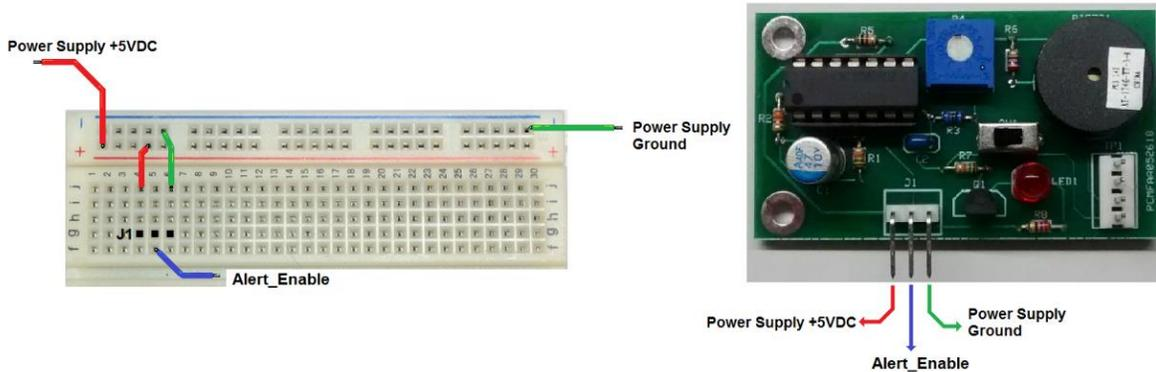

Figure 12
Figure 12 illustrates a preferred method of connecting the Flasher/Audio Alert Module for a quick operational test. As shown here, right-angled header J1 is connected into a breadboard strip, with the +5.0VDC bus connected to pin 1 and the ground bus connected to pin 3.
- 1) Insert the Flasher/Audio Alert Module into the breadboard section as shown in Figure 12.
4) Using an alignment tool or a small flat head screwdriver, adjust the wiper of trimmer R4 as necessary to align the groove of the white actuator in the vertical position, as seen in Figure 12.